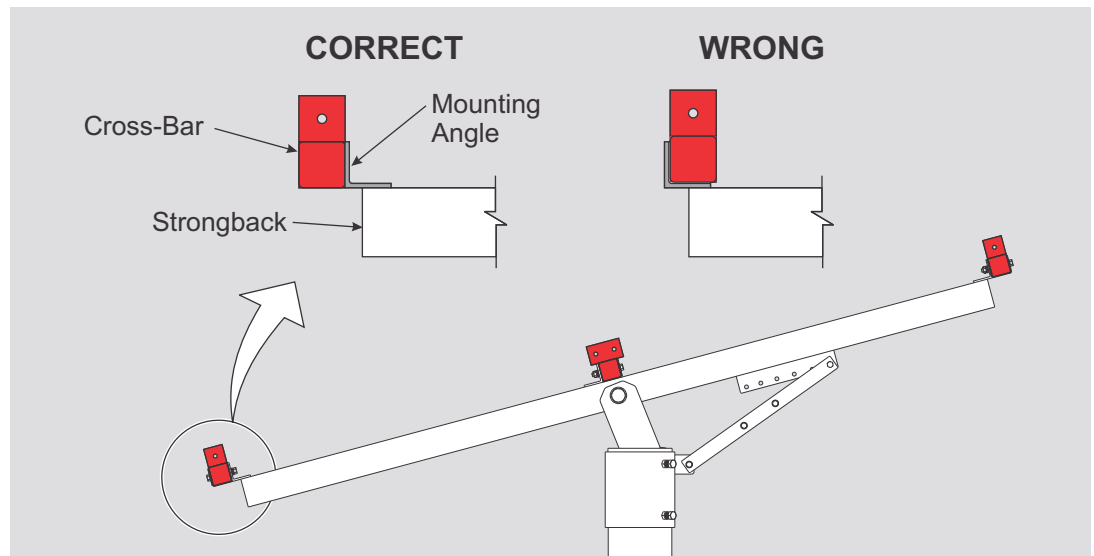

Figure 3-2: Cross-Bar Positioning relative to Mounting Angles
Cross-Bars are mounted to the outside of the Strongback mounting angles (these are welded to the Strongback). They are not nested into the Mounting Angles. (See Figure 3-2)
- C. Continue using these steps to install the north and south most Cross-Bars to the Strongback. Refer to Figure 3-2 as needed for proper positioning.